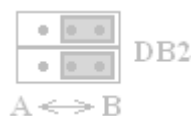

Figure 10
B. Short access to B end of needle: The driver output current reaches the set value of 0.7 seconds, the driver will automatically stop output, and maintain the state. See figure 10